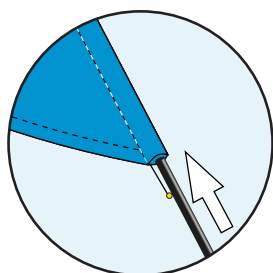
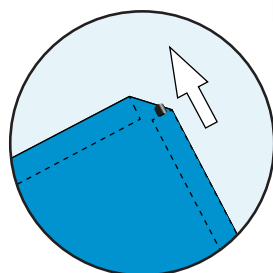

Fig 1.
Fig 2.
2. Take the 2.5m (28mm) top pole section with the cleat and joint at the bottom, and insert it into the bottom of the vertical sleeve. (Fig 1) Push it all the way up until it comes out the top of the sleeve. (Fig 2)